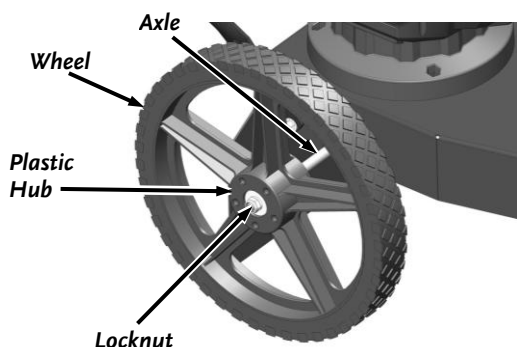

Figure 18
2. Remove the Locknut using a 5/8" Wrench (**Figure 18**).